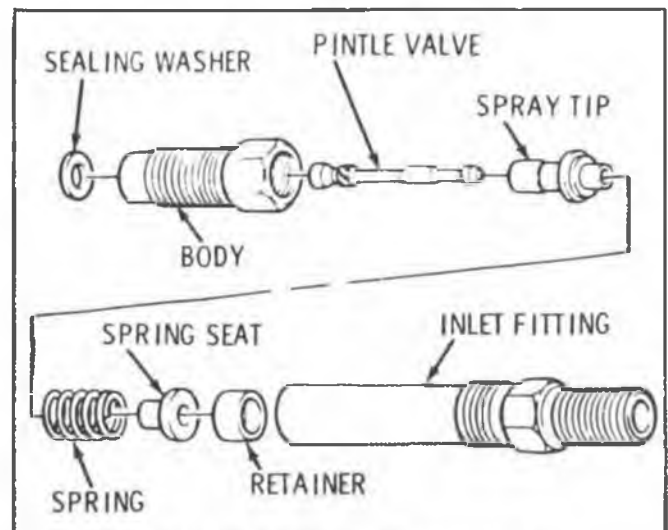

Fig. 5-13 Injection Nozzle Disassembled
7. If the components are visually satisfactory, assemble the injector as follows: (Refer to Fig. 5-13).
- (a.) Unscrew the inlet fitting from the body and press the nozzle tip assembly out of the body being careful not to damage nozzle tip. (Fig. 5-13).
- (c.) Remove the spring seat and spring and press the valve from the spray tip. (See Fig. 5-13).